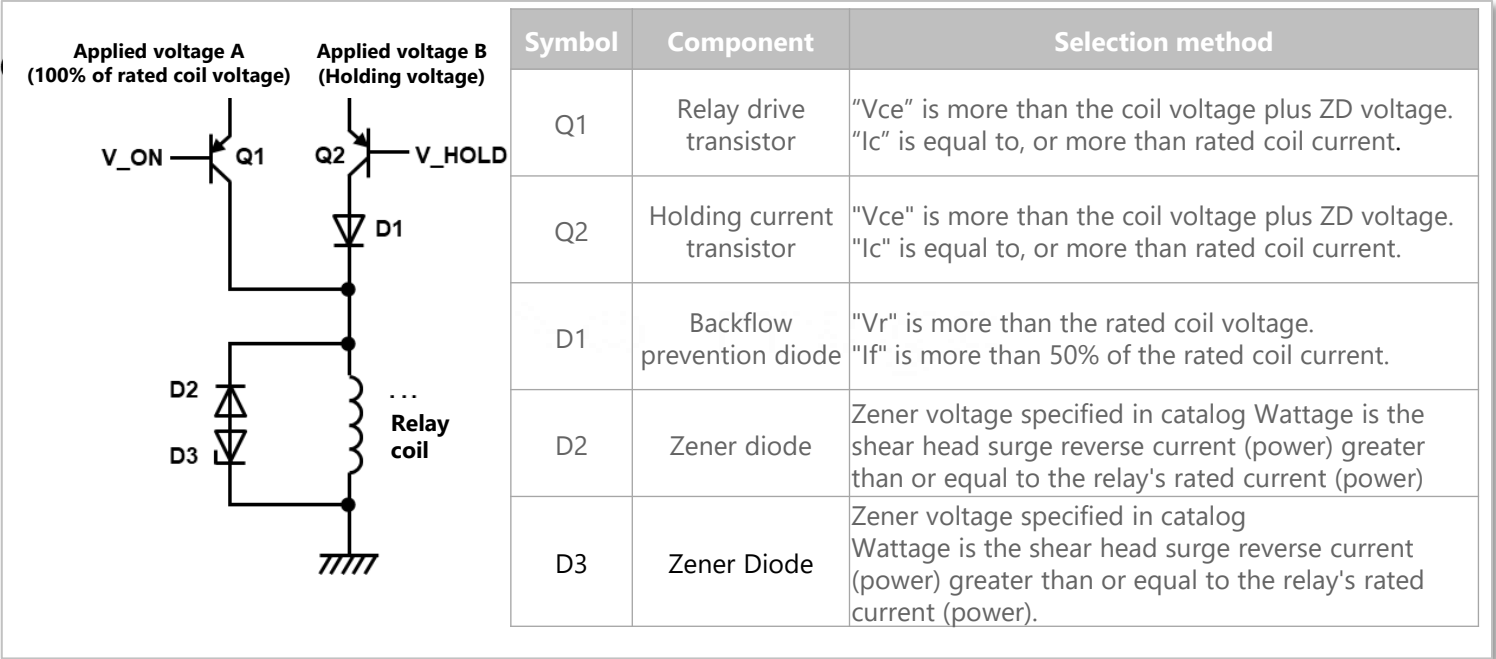
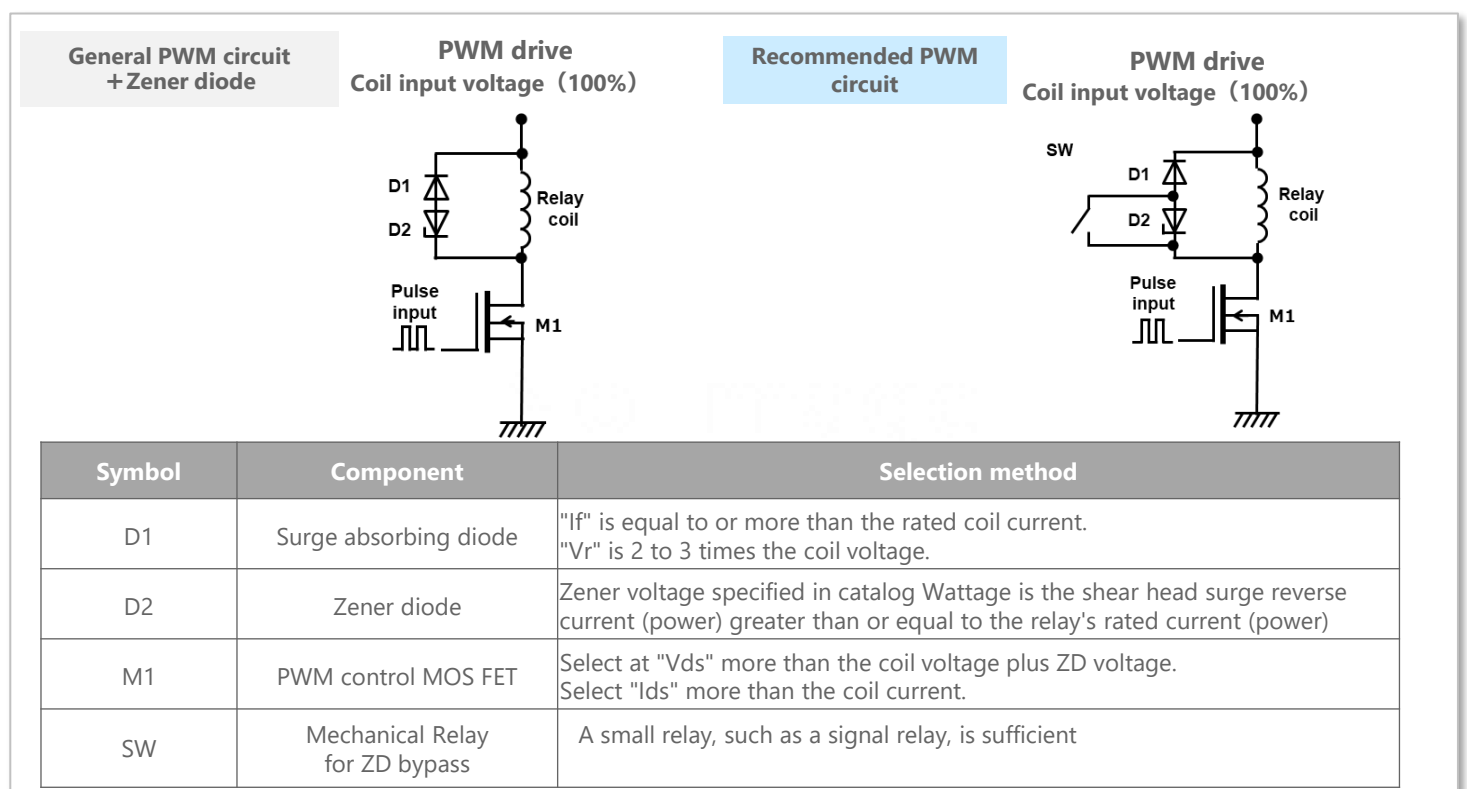

Figure 14: Recommended holding voltage circuit example with switch, and peripheral component selection method
Figure 16: Recommended PWM control circuit example and peripheral component selection method
If a low voltage (B) for holding the coil is available in addition to the rated coil voltage (A), it can be switched to the holding voltage by means of a switch. Switching to 50% voltage will reduce the current to 50%, thus greatly reducing the power consumption of the entire circuit to 1/4 of the rated value. (Figures 14 and 15)
In PWM control, a general PWM control circuit is not recommended to avoid power loss due to the Zener diode. A switch should be mounted in parallel with the Zener diode and bypassed during PWM control (Figure 14). When the relay is turned off, first turn off the switch to turn off the applied voltage of the drive circuit, then the relay is normally turned off by the Zener diode + diode. (Figure 16)